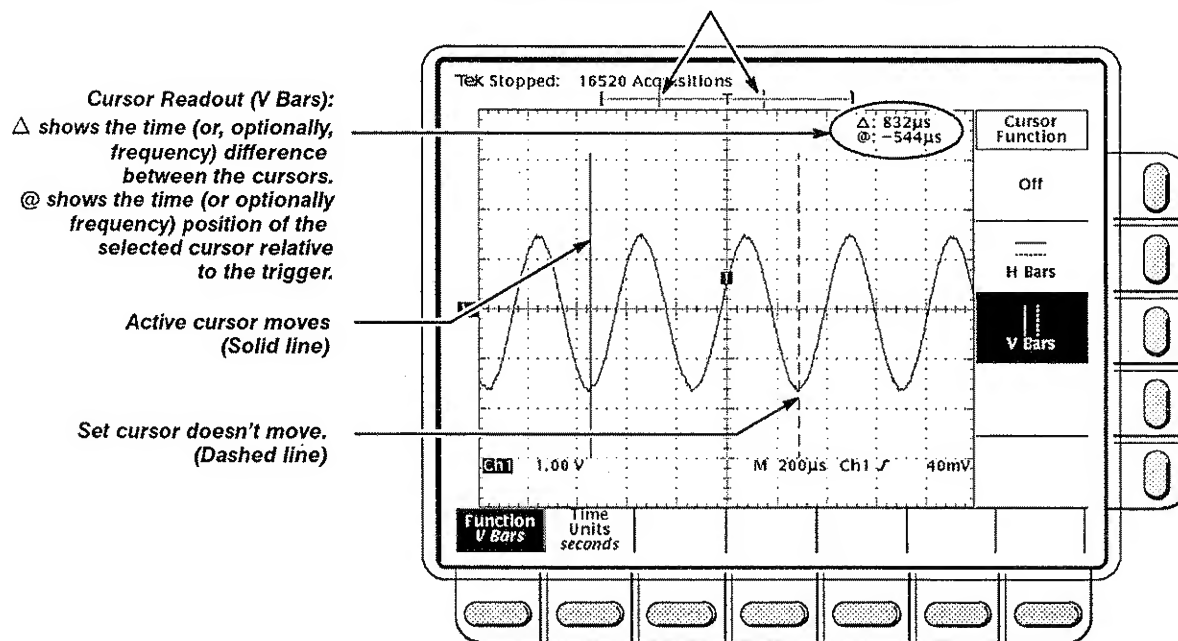

Figure 3-4: Cursor Menu and Cursor Readouts
- ☐ **Step 1:** Press the **CURSOR** button to display the Cursor menu (Figure 3-4).